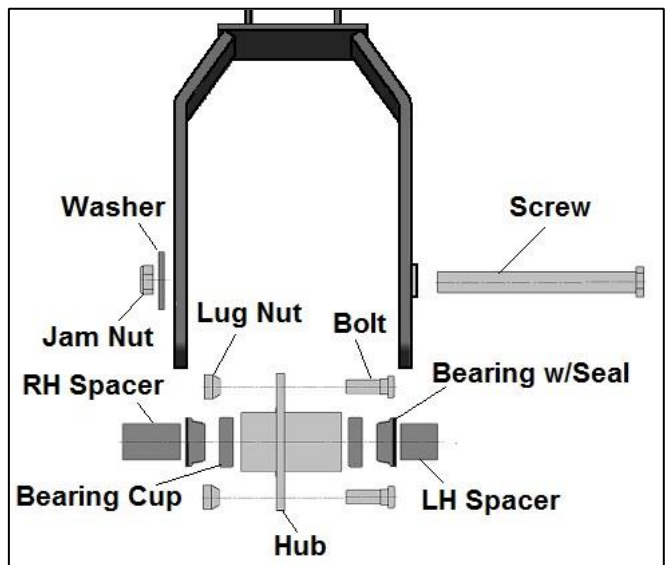

Figure 6-2
- 3-Wheel Model with non-suspension fork. See Figure 6-2. Remove the screw, washer and jam nut. Remove lug nuts and wheel assembly from the hub. Remove the hub components shown in Figure 6-2.
2. 3-Wheel Model with non-suspension fork. See Figure 6-2. In the hub install the bearing cups, roller bearing with seals and the spacers. The smaller spacer is to the left side. Tighten four lug nuts by hand and wrench until snug using a criss-cross pattern. Install hub assembly in wheel and place in fork. Attach with screw, washer and jam nut. Tighten until resistance is felt.